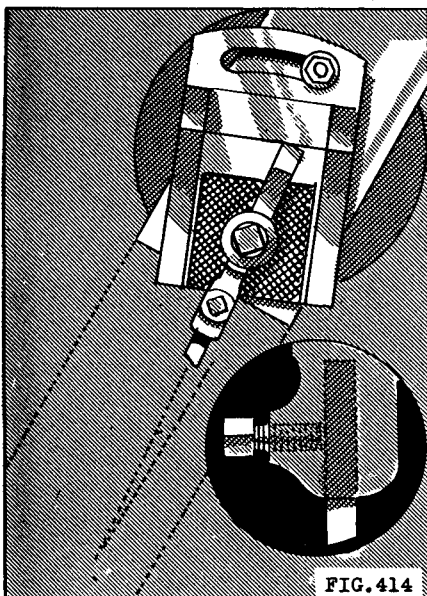

FIG. 414
9. Set the clapper box over to the left as far as possible (Fig. 414). This will allow the tool to swing clear of the work on the return stroke. (Refer also to page 179.)
1. Select a tool holder like the one illustrated in Fig. 209, page 155. This will hold the tool parallel (horizontal) with the shank of the tool holder, and will allow the tool to be set at a slight angle to the angular surface without interfering with the side of the tool holder (Fig. 414).
2. Place the tool holder in the tool post so that it makes an angle of about 5° to 10° with a line parallel with the side of the tool slide (Fig. 414).